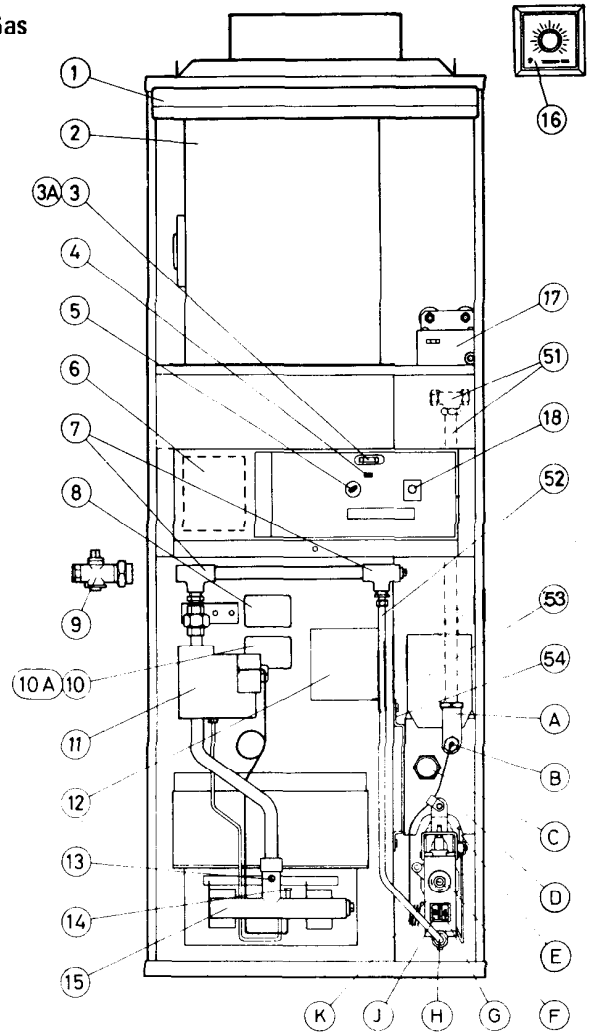

Fig. 1
- (f) Adjust pilot flame if necessary so that it just envelopes thermocouple tip. To adjust flame, remove screw cap from adjustment point (see Fig. 1) and turn screw *clockwise to decrease, anti-clockwise to increase flame*.